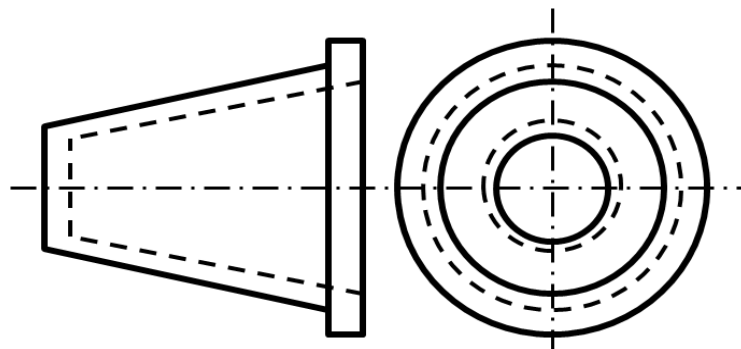

Figure Q2A; Schematic of part to be manufactured
C. Company CS Engineering has the option to manufacture 200 pieces of stainless steel part as shown in Figure Q2A by either machining or metal forming. Considering at least two (2) sustainability aspects, suggest which process the company should choose. (Note: *Justify your reasons by comparing between the two processes.*)